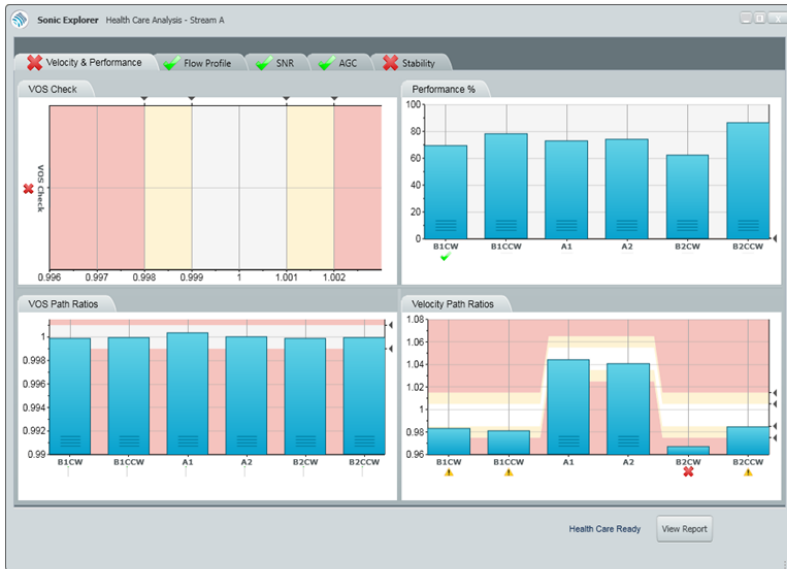

Figure 11-2 Healthcare Velocity & Performance
- ✓ Another window with several tabs will open, as seen in Figure 11-2 will display five tabs, each with a variety of charts visualising essential analysis of the meter performance. On these graphs the limits are shown in yellow and warning values are shown in red.
This tab contains 4 graphs, as seen in Figure 11-2.